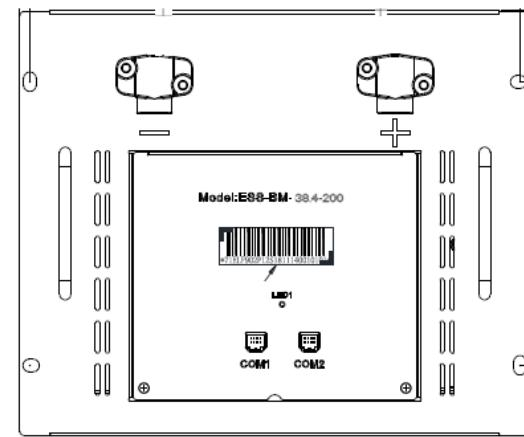

Figure 6-1 Diagram of the battery module label (picture is for reference only)
3) Determine the installation position of the battery module according to the label of the battery module(as shown in Figure 6-1, the 4 digits are the installation position of the battery module, 0101 indicates the first position of the first rack, and 0211 indicates the 11th position of the second rack).